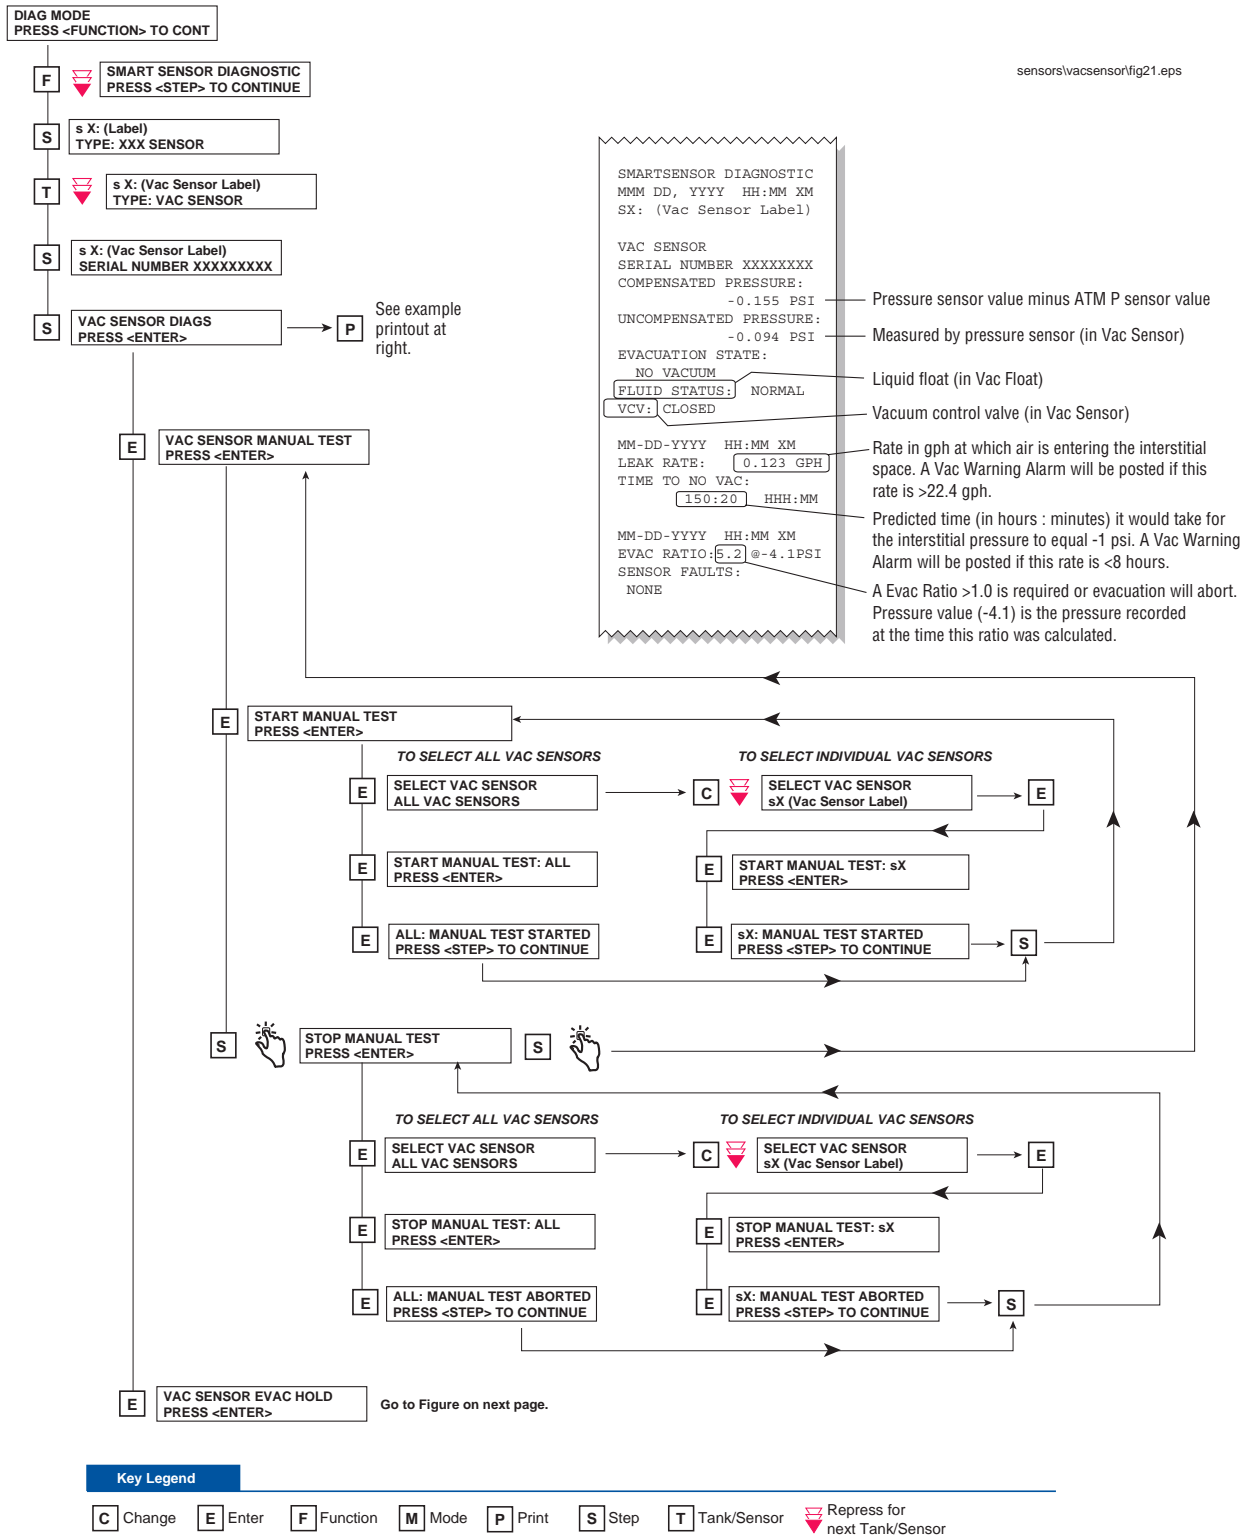
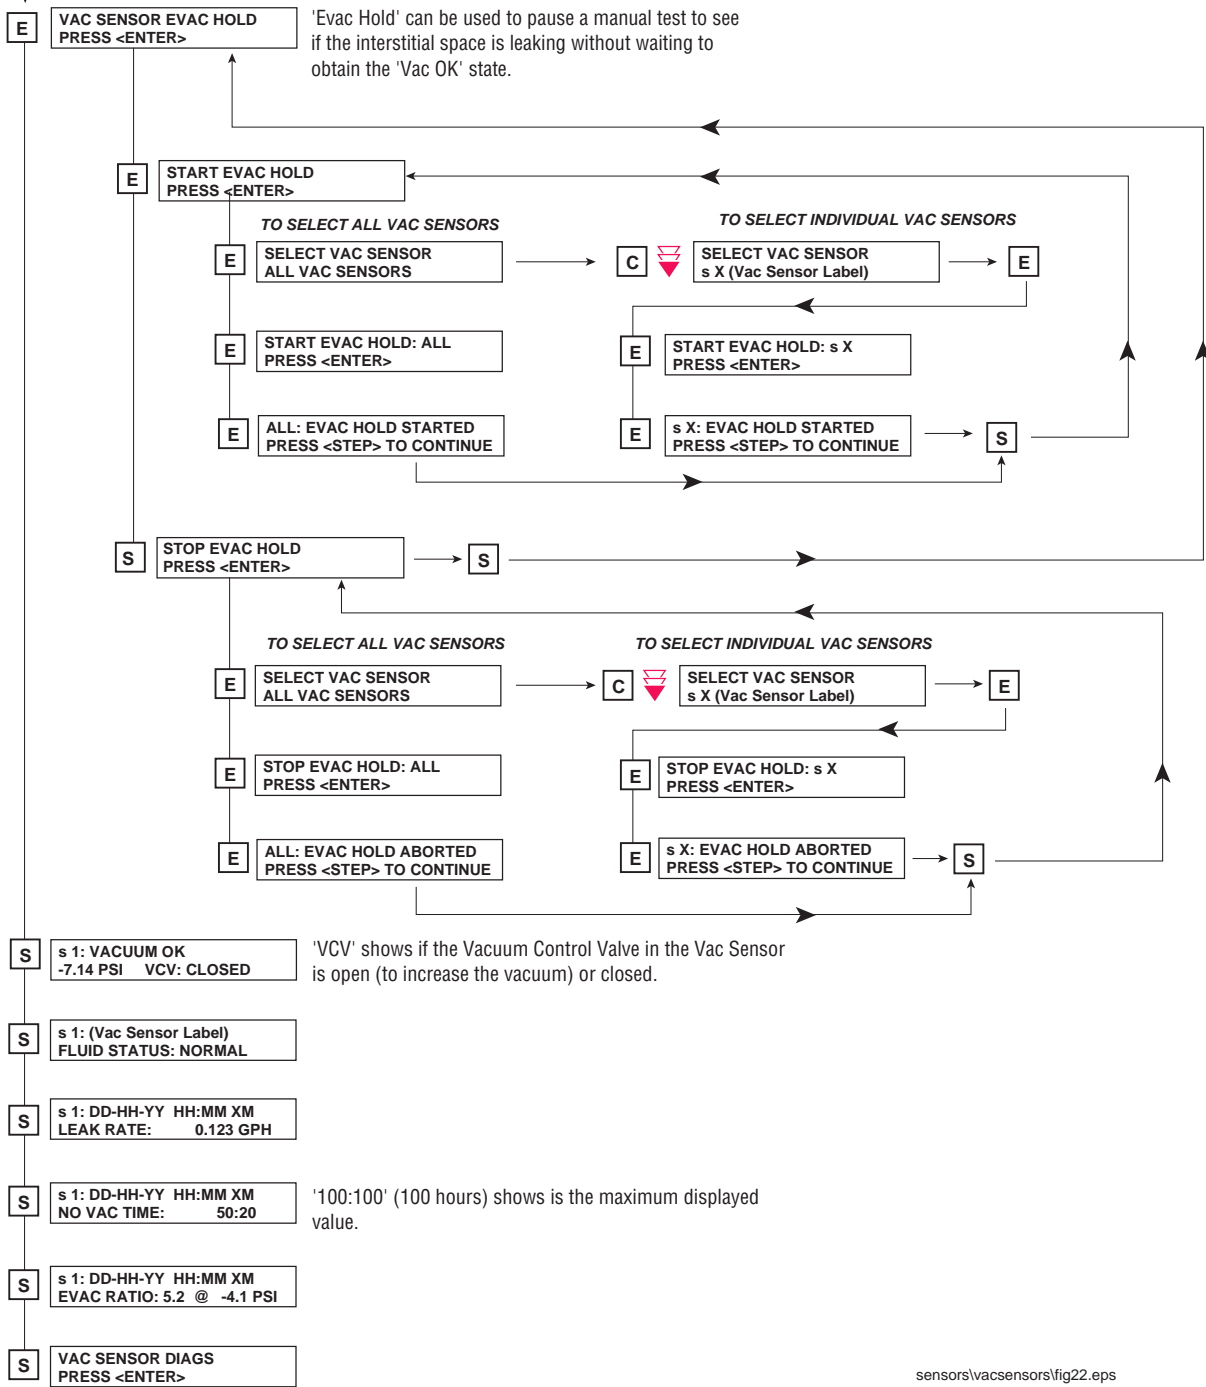

Figure 19. TLS Console Vac Sensor Manual Test
Figure 20. TLS Console Vac Sensor Evac Hold Procedure
Figure 19 displays the Vac Sensor Manual Test procedure steps and Figure 20 displays the Vac Sensor Evac Hold procedure steps.
4. At the console enter the DIAG MODE and initiate a manual test that will clear the 'No Vac' alarm (Refer to Figure 19 for Manual Test instructions).